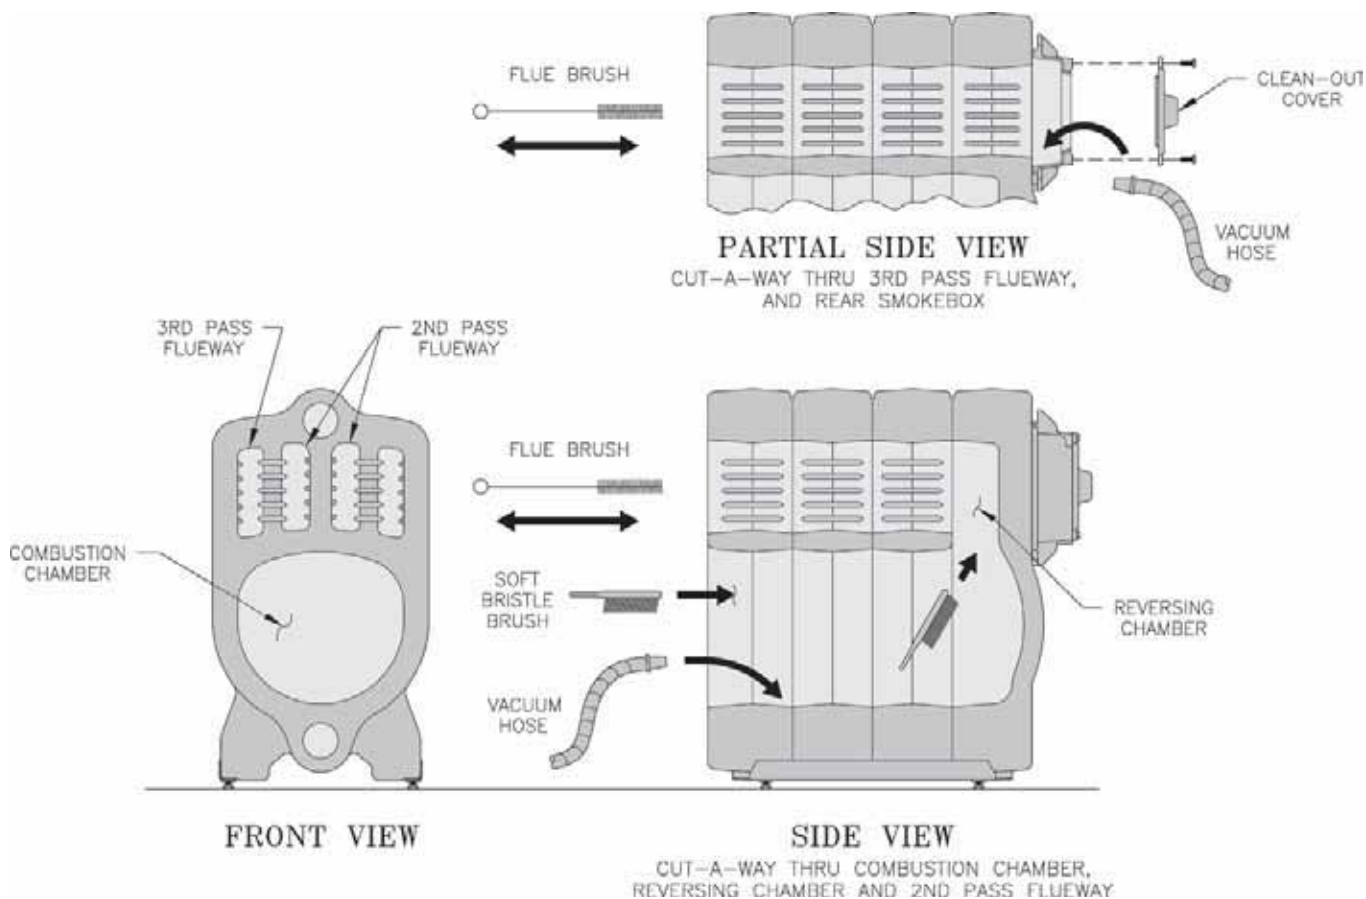

Figure 49: Cleaning of Boiler Flueways
A. CLEAN THE FLUEWAYS (See Figure 49).
1. For access to the combustion chamber remove the two (2) 3/8" - 16 cap screws. If boiler is equipped with flexible fuel line(s), swing door open.